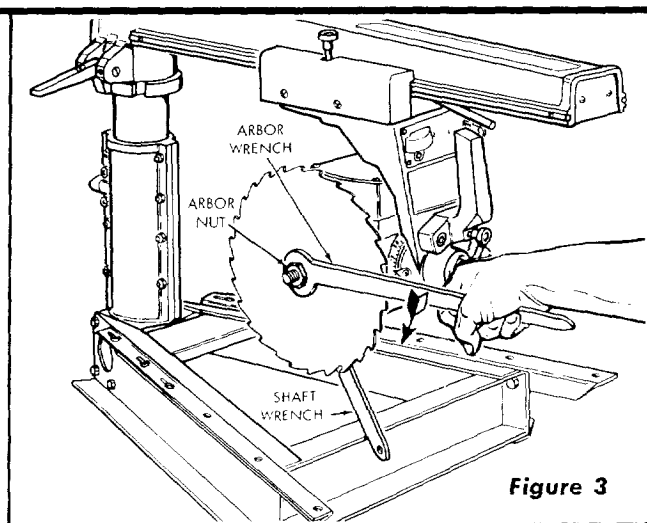
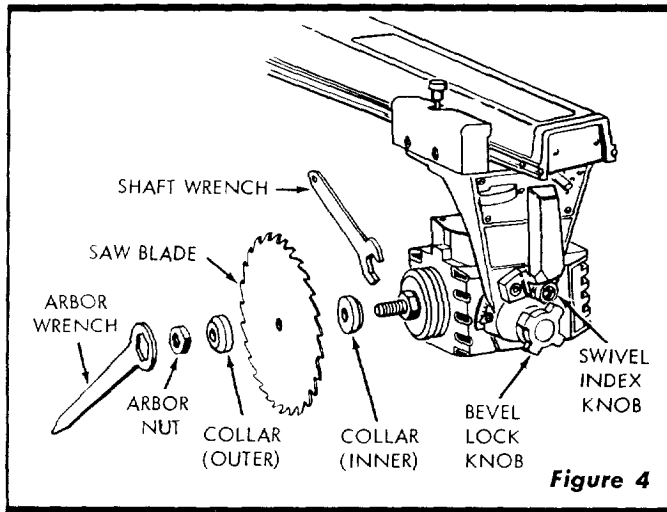

Figure 3
Figure 4
arbor nut and saw-blade collar with the arbor wrench. (See figures 3 and 4). Remove nut, outer collar, saw blade and inner collar. (See figure 4.)
- d. Loosen the bevel lock knob and pull out on swivel index knob. (See figure 4.) Swivel the motor to position the saw end of shaft pointing straight down. Tighten the bevel lock knob.
- a. Place the inner collar on motor shaft. (See figure 4.)
- b. Slide saw blade on motor shaft. Make sure teeth are pointed in direction of saw rotation. (See figure 4.)